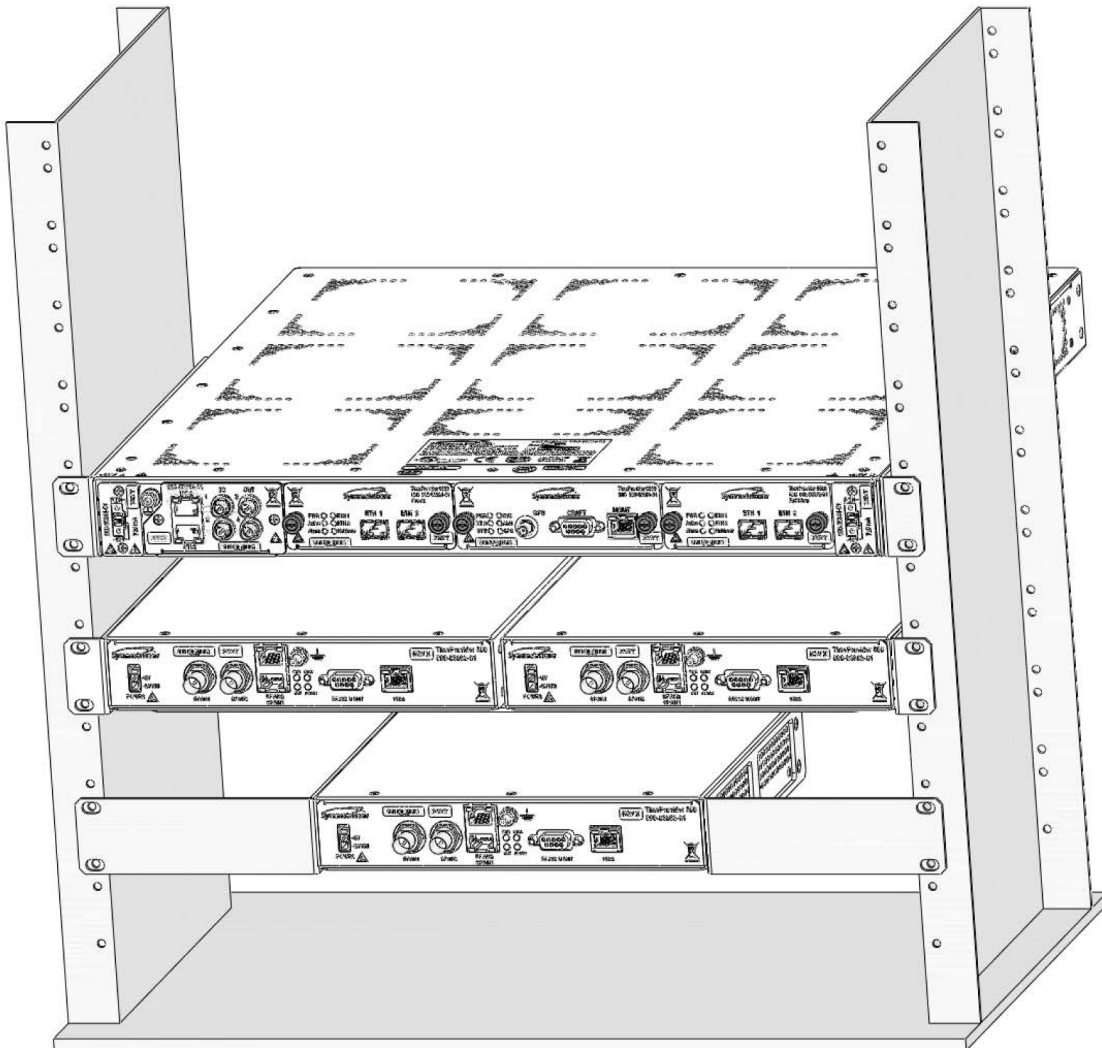

Figure 1-8. TimeProvider 5000 and TimeProvider 500 Rack Mounting Example
3. Mount the TimeProvider 500 to the front of the equipment rack rails with four screws and associated hardware as shown in Figure 1-8.
Figure 1-8 shows a TimeProvider 5000 grandmaster clock at the top, dual-mounted TimeProvider 500s in the middle, and a single-mounted TimeProvider 500 at the bottom.